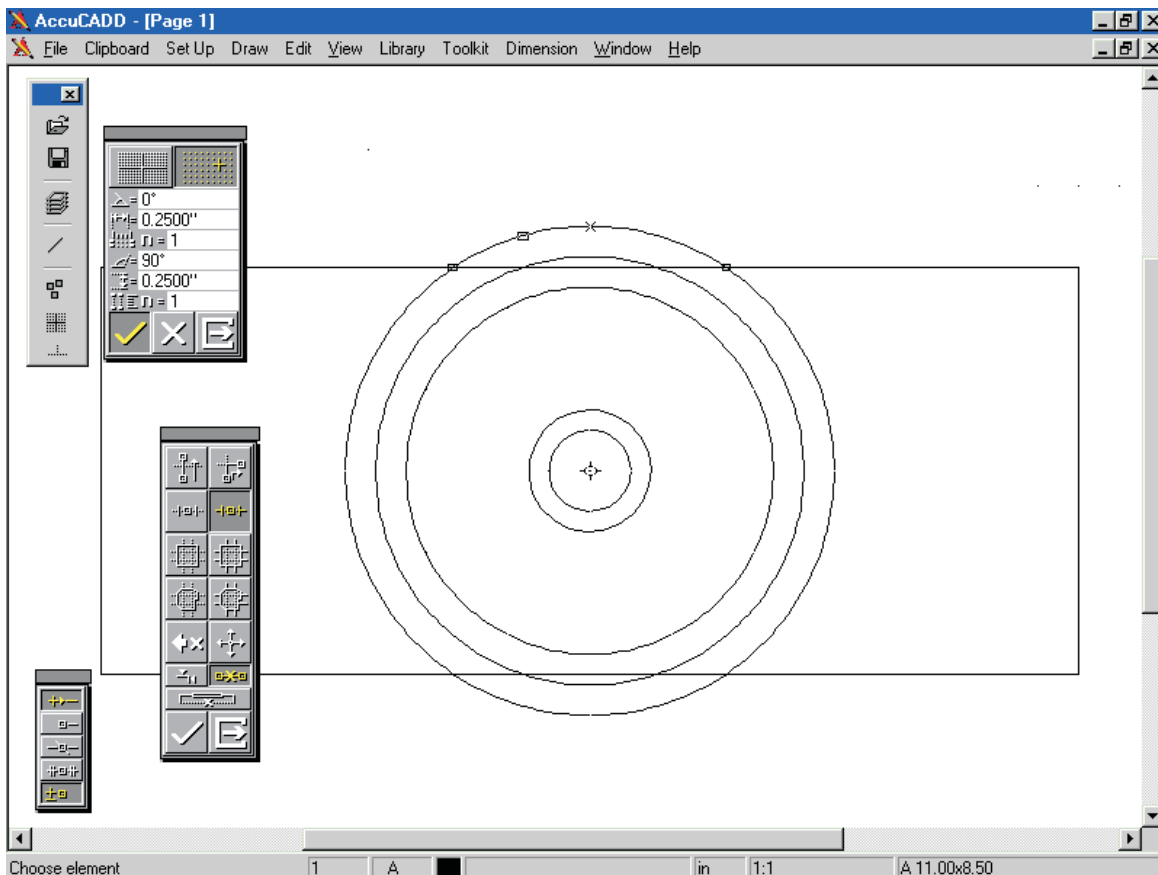

Figure 15: Part Erase "trap"
□ Make sure the Part Erase icon is selected in the upper right of the Erase palette as shown in Figure 15.
□ Place the rectangular "trap" cursor over the larger circle, where it extends beyond the rectangle, as Figure 15. Click to confirm; the selected portion is now tagged with end markers and a cross. Tag the other protruding segment at the bottom of the rectangle in the same way, then execute by selecting the check symbol (on the Erase palette).